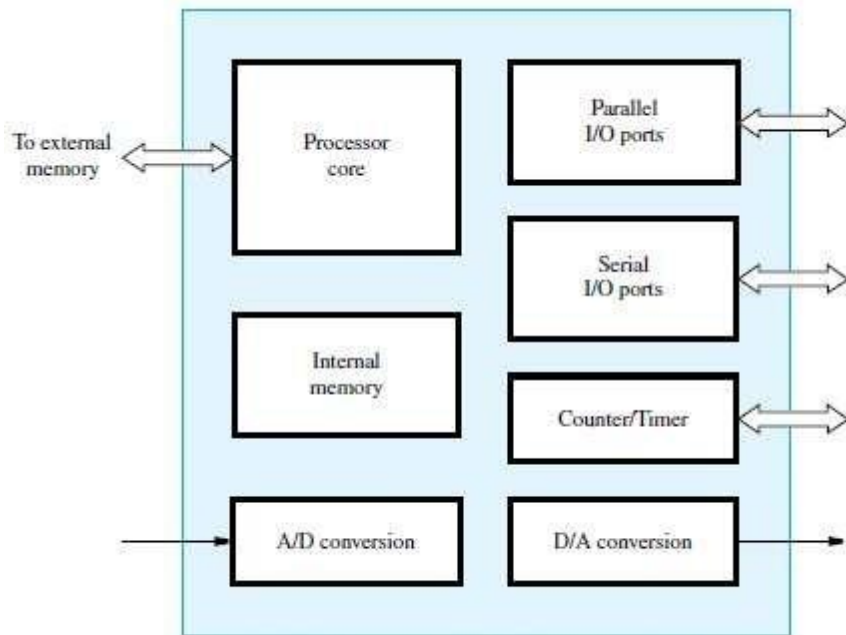

Figure 10.3 A block diagram of a microcontroller.
- **Processor Core** may be a basic version of a commercially available microprocessor (Figure 10.3).